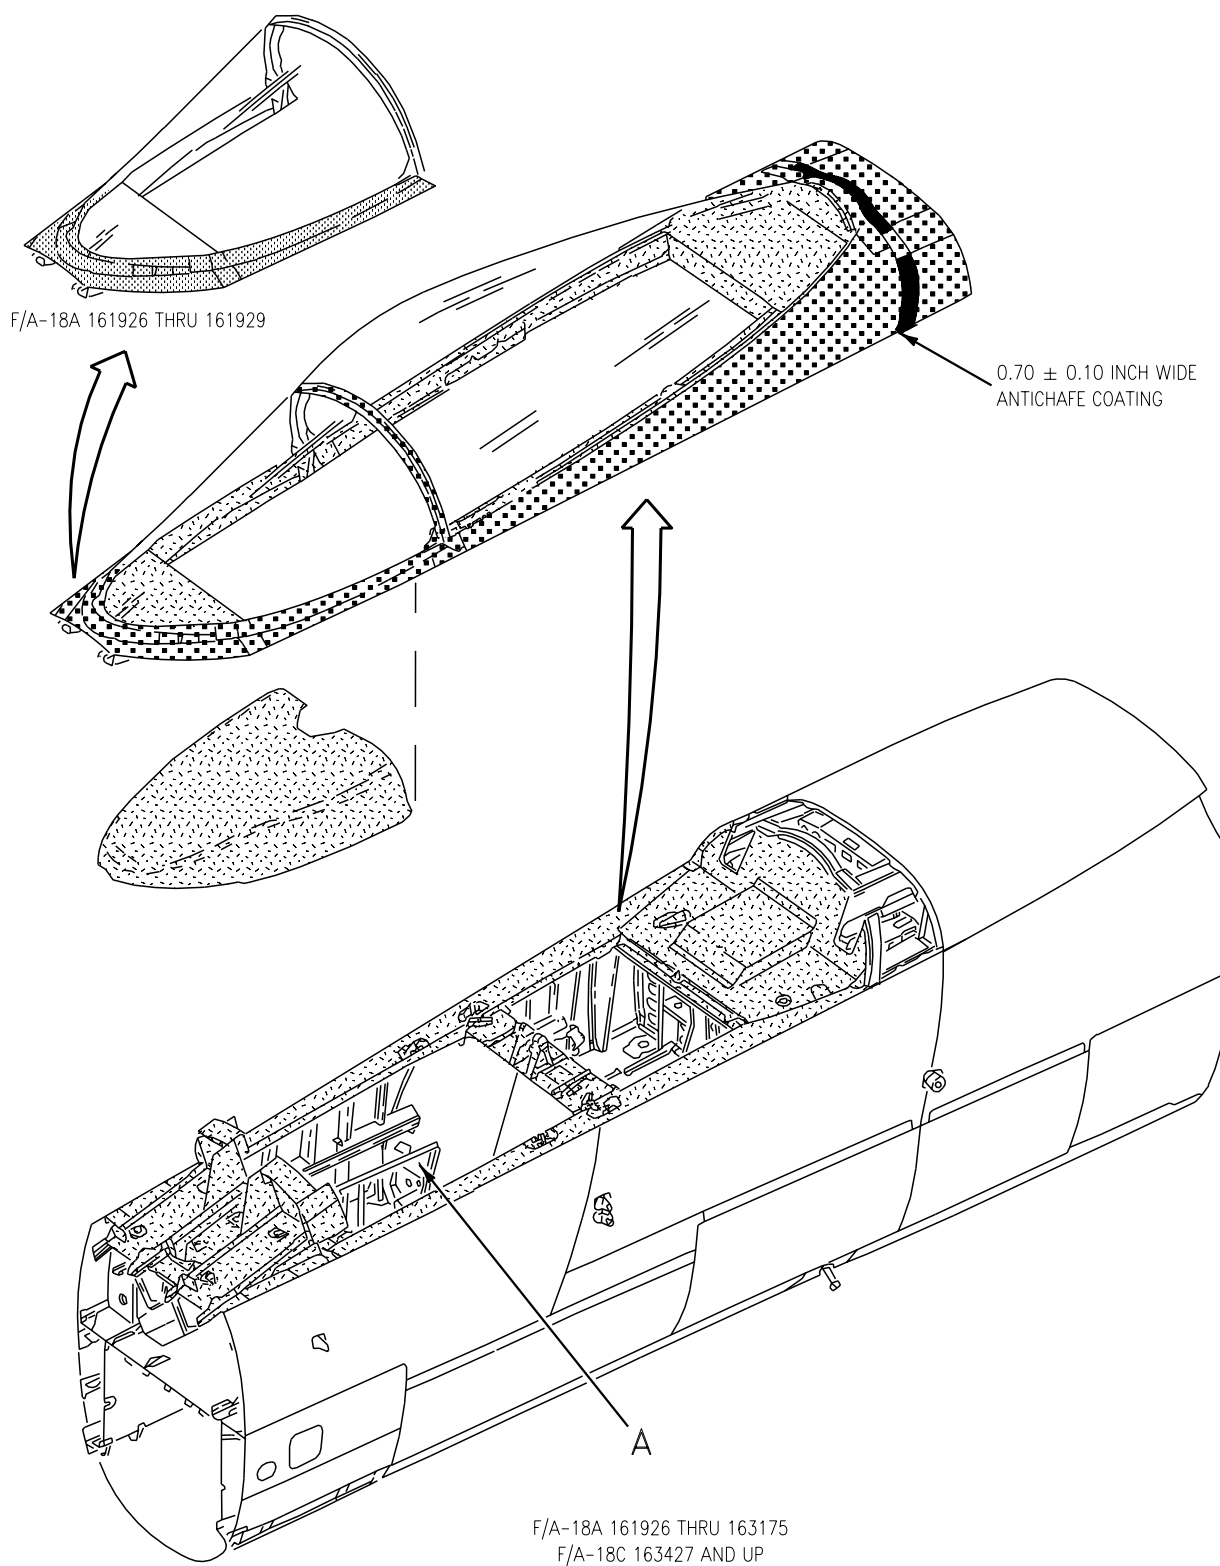

Figure 1. Finish System (Sheet 1)
4. AIRCRAFT REFINISHING. On 161353 THRU 161925, if complete aircraft requires refinishing, use finish system color diagram shown on figure 1 for 161926 THRU 163175.